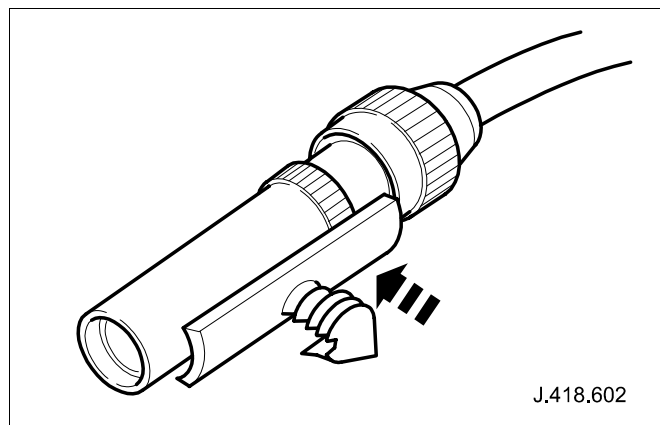

Fig. 26
- 97 Install plastic fir tree clip (removed and retained previously) to Jaguar link lead socket. (See Fig. 26)